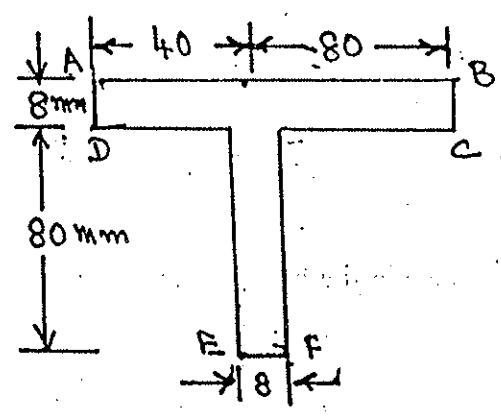

Fig. 1
- (b) Find the max. bending stress for the section shown in the fig. 1, subjected to a bending moment $M_x = 1500 \text{ N-m}$.